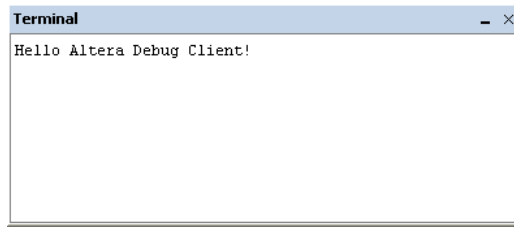

Figure 49. Output from the terminal tutorial program.
3. Run the program. The program will clear the Terminal window and write the string `Hello Altera Debug Client`, as shown in Figure 49.